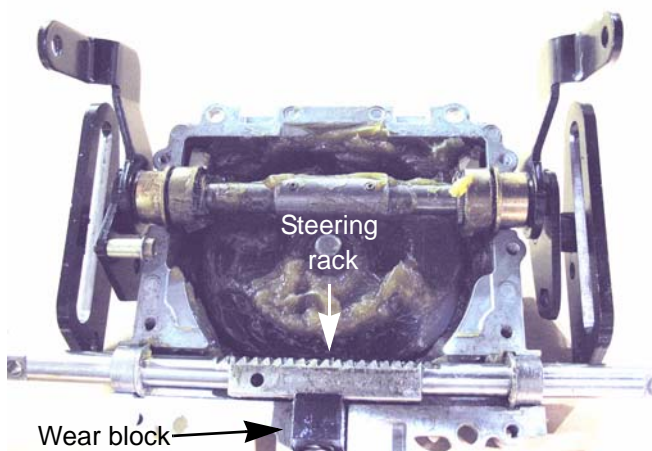

Figure 6.33
6. Remove the steering rack. See Figure 6.33.